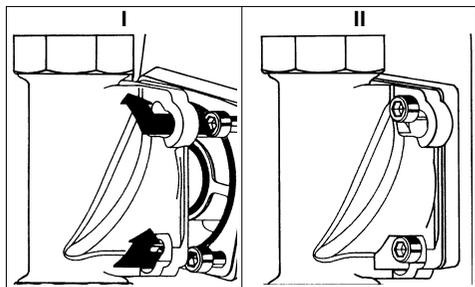

Fig. 4: Fitted Rotating Flange with Bayonet Fixture
- insert the four flange screws M6x25 in the bayonet drill holes on the fitted rotating flange (see Fig. 4) I.
- turn the Jewel Water Device in a clockwise direction as far as it will go (see Fig. 4) II.